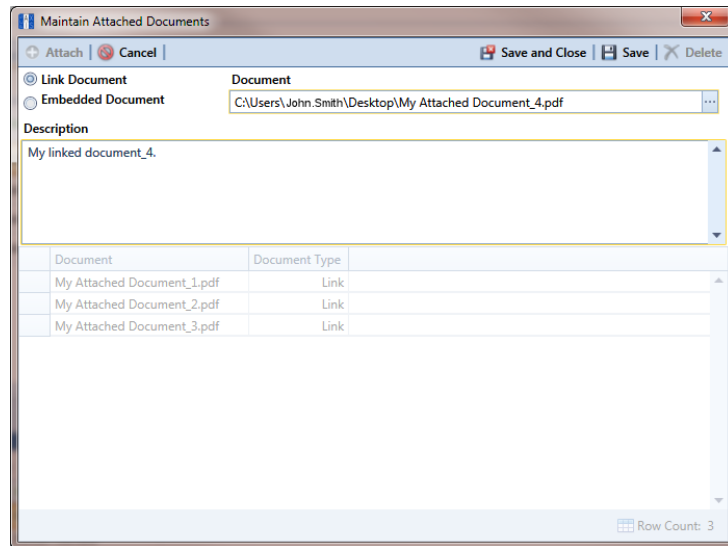

Figure 7-104. Maintain Attached Documents
- 7 If you selected *Link Document* in step 6 and want to link to a file on a local computer or company network, follow these steps (Figure 7-104):